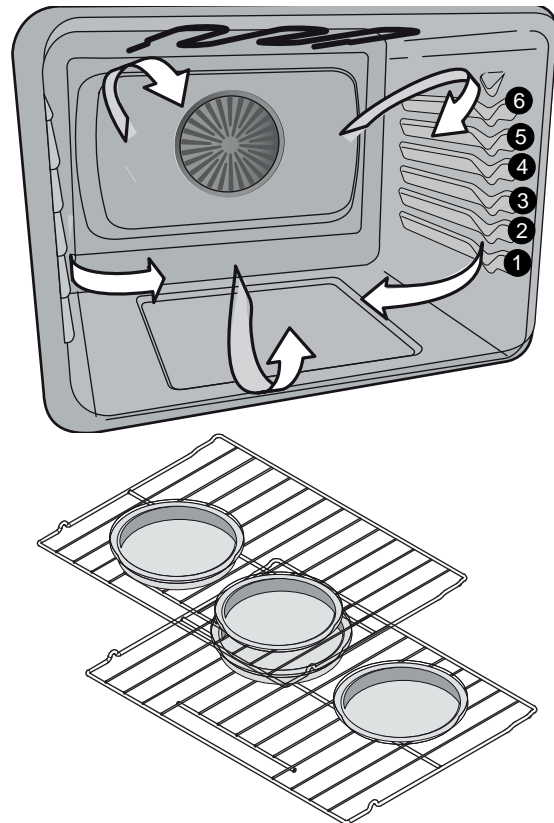

Figure 11: Rack positions and pan placement
- When baking cakes using two oven racks place bakeware in positions 1 (Flat) and 4 (Flat) or 3 (Glide) and place bakeware as shown in Figure 11.